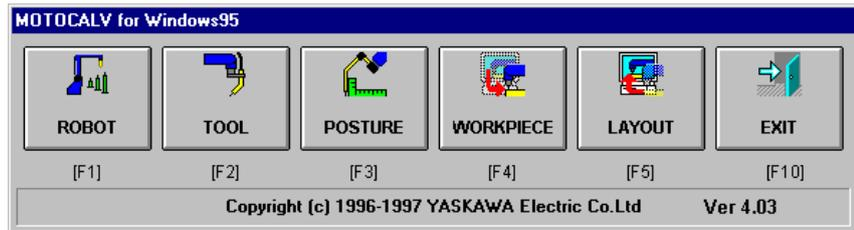

Fig. 2.1.4 Calibration Main Screen "MOTOCALV EG"
- 1) Insert the above floppy disk. Double-click the [MOTOCALV EG] icon in the [Start]-[Program]-[Motoman]-[MOTOCALV EG] to start the program. (Refer to Fig. 2.1.4 Calibration Main Screen "MOTOCALV EG")